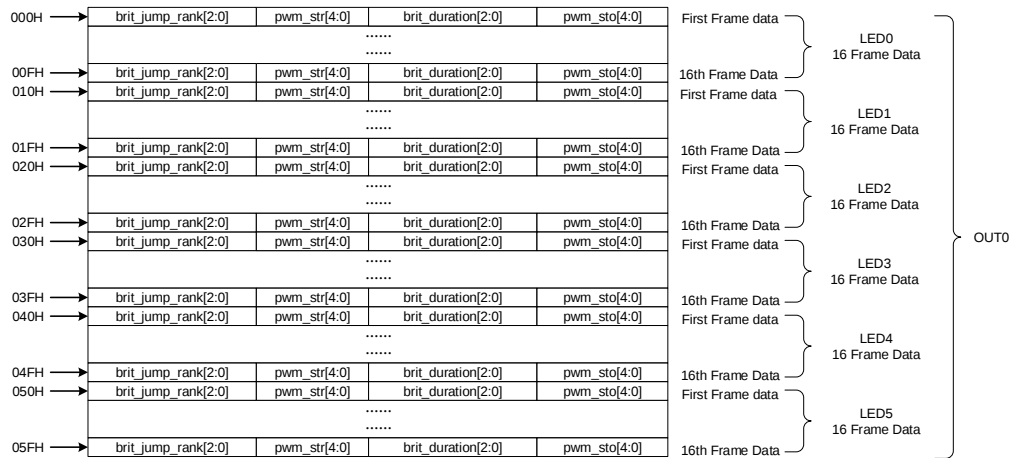

Figure 8. Channel 0 SRAM Distribution
2. Each LED lights have 16 frame data, corresponding to the address on the left side of the figure 8, such as LED0 16 frame corresponding to the light address is 000H to 00FH, similar to other lights.